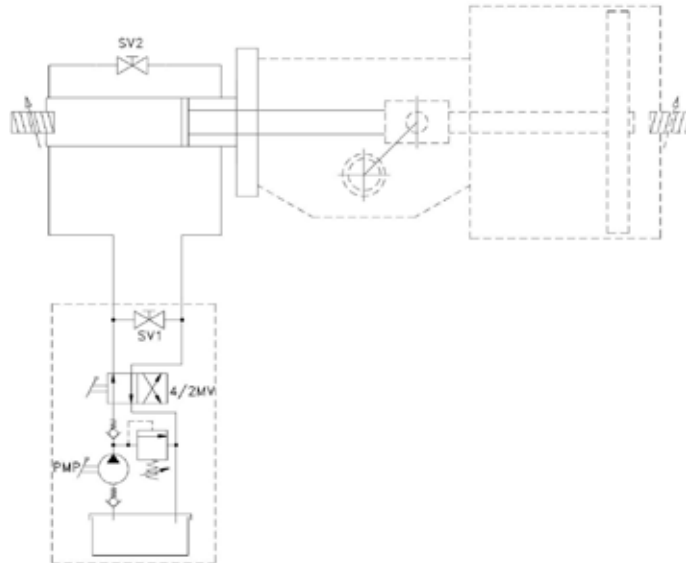
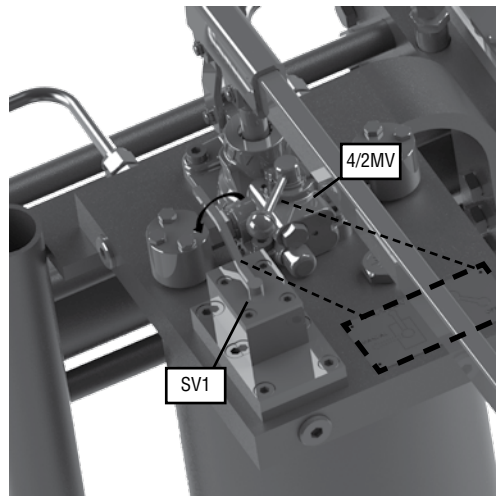

Figure 15 – Hydraulic Diagram of LPS Double-Acting Actuator with Hydraulic Override
Figure 16 – Details of Hydraulic Hand Pump Manual Override for Double-Acting Actuator
- 3.1.3.1.2 Referring to the schematic diagram (Figure 15), switch the manual stop valve SV1 in “MANUAL” position, as shown in the nameplate located nearby (Figure 16).
- 3.1.3.2.1 Switch the manual stop valve SV1 in the “AUTOMATIC” position, as shown in the nameplate located nearby (Figure 16).